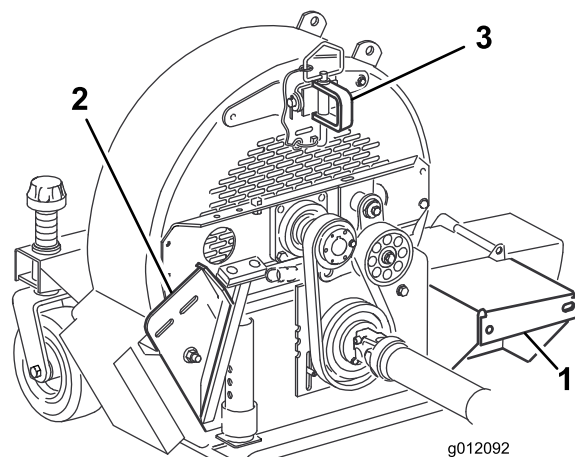

Figure 6
4. Have a helper carefully push down on the right push arm until the holes in the ball joint mount line up with the holes in the blower mounting bracket (Figure 6).